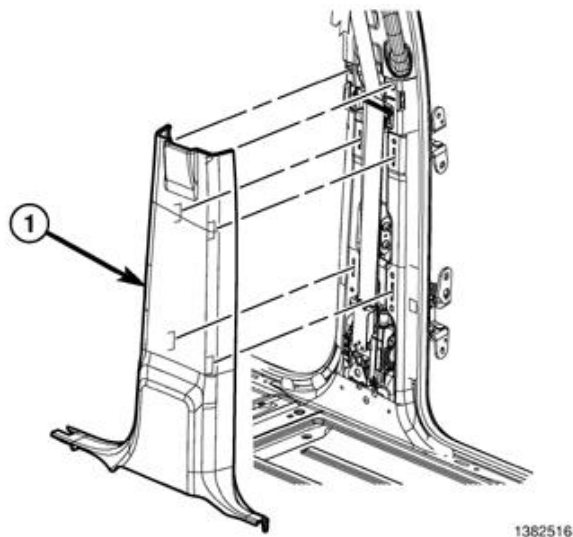

Figure 69 – B-Pillar Lower Trim Panel
6. Release the retaining clips and remove the B-pillar lower trim panel to allow for removal of the B-pillar upper trim panel (Figure 69).